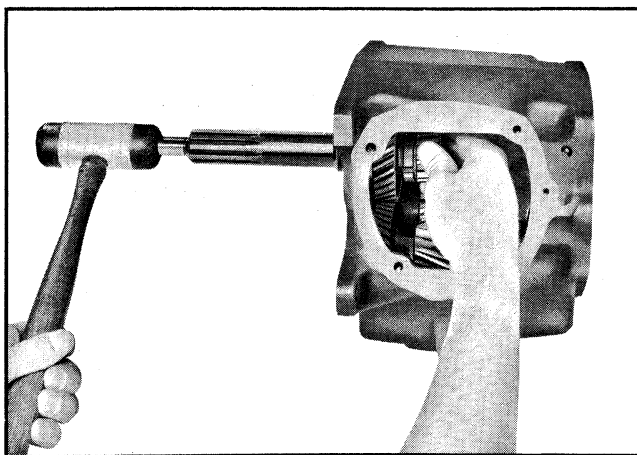

Fig. 7-19 Removing Clutch Gear and Bearing Assembly
12. Using soft hammer, tap front end of shaft, moving main (clutch) gear and bearing assembly into case. Remove through side opening (Fig. 7-19).